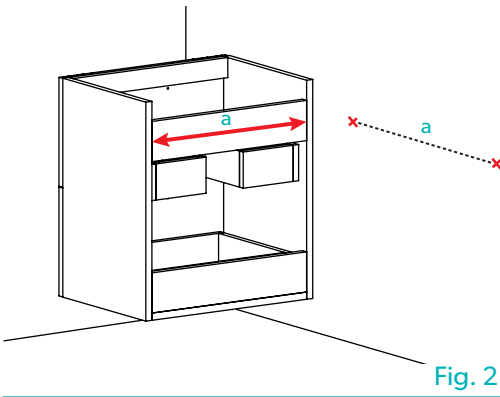

Fig. 2
4. Measure the spacing on the back of the unit, between the two inner sides of the carcass (*Fig. 2, A*) this is the maximum bracket spacing. Measure the required mounting point height taking into account the basin to be used and if leg kit is being installed.
5. Transfer measurements onto wall using a spirit level to ensure they are straight and level and spaced correctly *as per Fig. 2.*